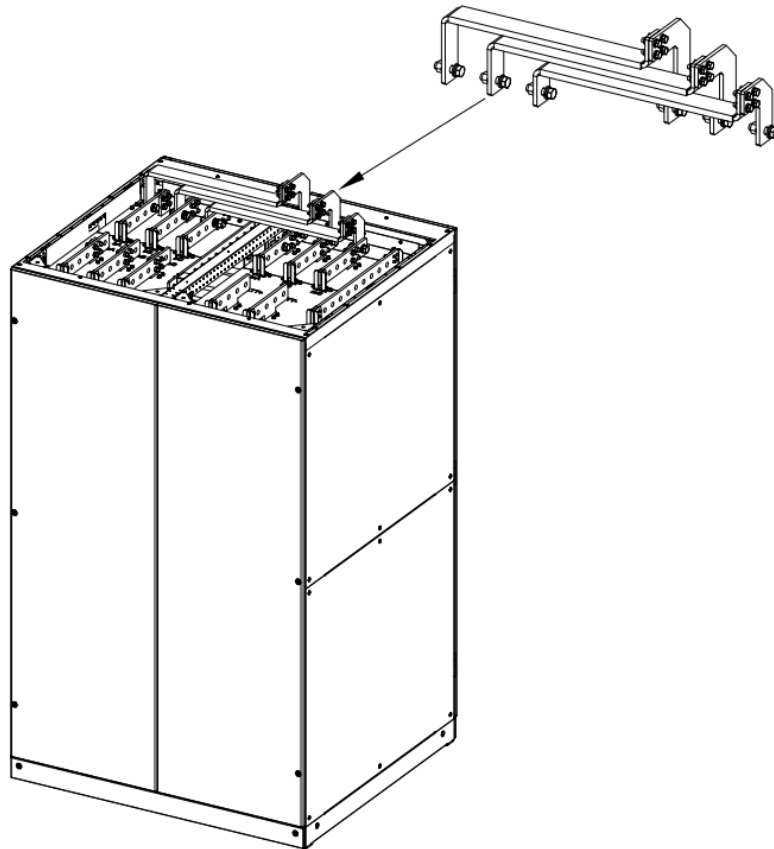

Figure 3-10 Detachable common input kit
1. The main and side sources are detachable. The main and side source copper bars can be freely disassembled according to actual needs, as shown in Figure 3-10.